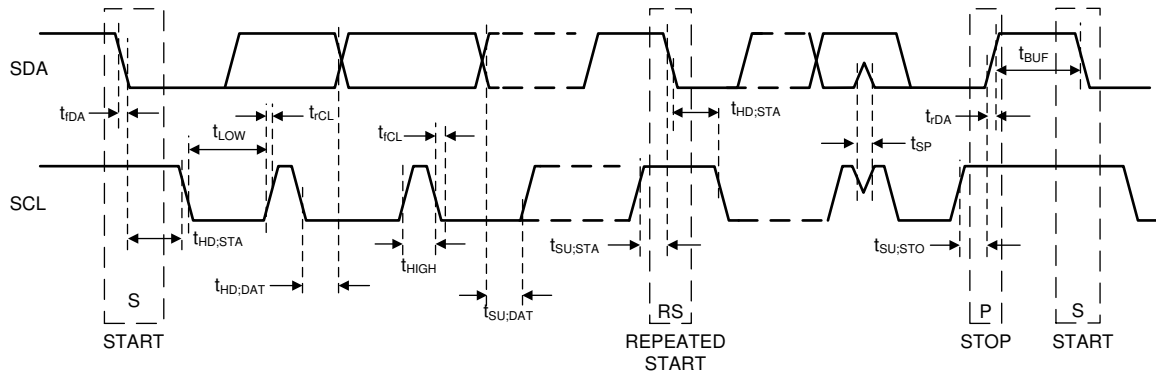

Figure 6-1. I²C Timing
(1) See Figure 6-1 for timing diagram.
(2) C_b refers to the capacitance of one bus line. C_b is expressed in pF units.